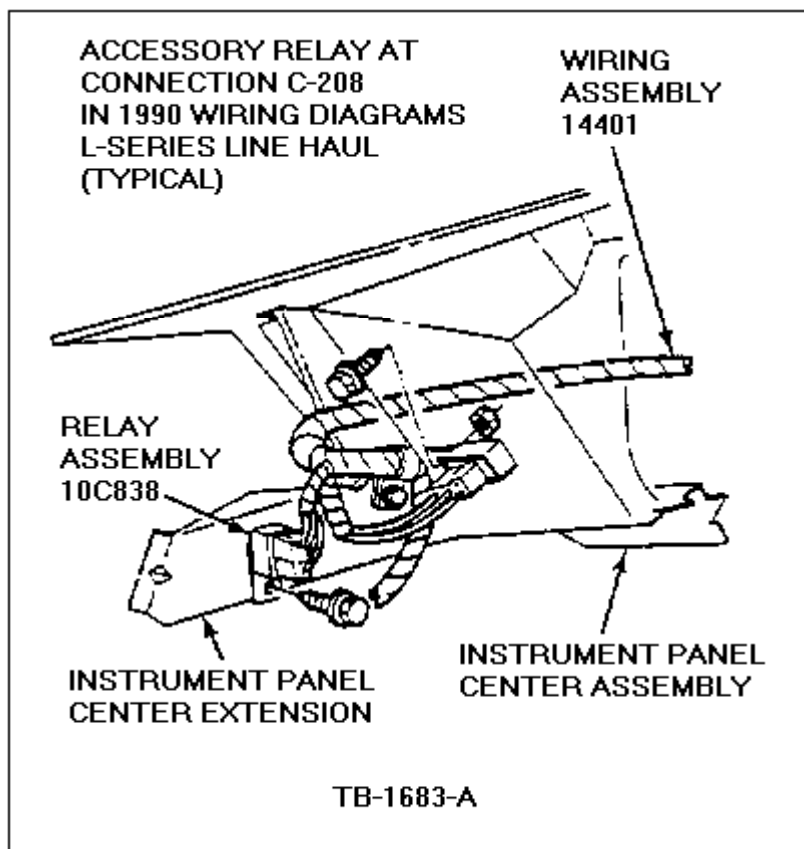

Figure 1 - Article 90-12-14
1. Use the vehicle wiring diagrams to determine the location of the various ground connections that pertain to the effected circuits. For example, a loose ground wire such as that shown in Figure 1, can cause the heater blower to seek ground through the engine temperature gauge.